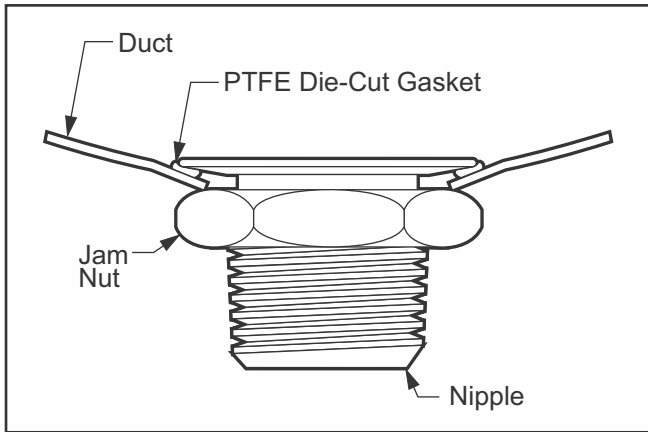

Fig. 37: Field Installed Nipple Configuration
3. 1-7/8 Punch: Slide the 1-7/8" die (for 1-1/2" test port) or the 60mm die (for 2" test port) onto the 3/4" actuator stud with the open end of the die facing away from the actuator. Insert the 3/4" actuator stud into the 3/4" hole. From inside the duct thread the matching 1-7/8" or 60mm punch onto the 3/4" actuator stud with the cutting surfaces of the punch toward the duct. Continue threading the punch by hand until the die, duct, and punch are snug. Operate the hydraulic actuator to draw the punch through the duct material. Remove the punch and die. (Fig. 37)